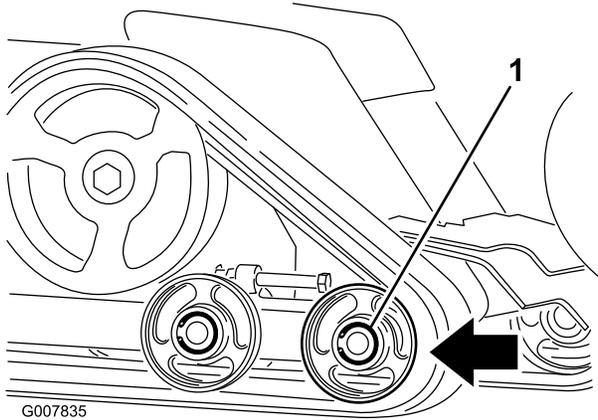

Figure 46
6. Push the front road wheel rearward as far as it will go (Figure 46).
8. When the track is off of the road wheel, remove it from the machine (Figure 46).
9. Beginning at the drive sprocket, coil the new track around the sprocket, ensuring that the lugs on the track fit between the spacers on the sprocket (Figure 46).
10. Push the track under and between the rear and center road wheels (Figure 46).